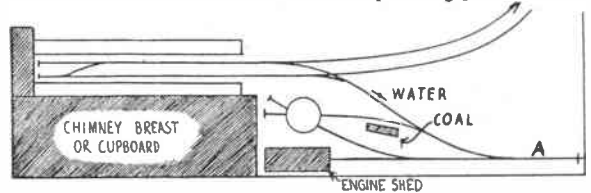

Fig. 2
Fig. 2 shows how a depot can be fitted into the otherwise wasted alcove alongside a chimney-breast, the layout providing for interesting shunting operations along the spur (A) before the turntable or shed can be approached. The ready entrance and exit roads from the spur out on to the main lines in the terminal station should be noted.
In Fig. 6 is shown an alternative version of Fig. 2, in which the shed is approached over the turntable instead of directly, and further spectacular interest is achieved by the curving away of the main running roads which leaves ample space at (A) for storage roads, coal sidings, and carriage sidings. Fig. 7 gives an idea of the absolute minimum track layout for the very simplest loco depot, where it will be seen that only a turntable and unsheltered loco storage road is provided at (X).